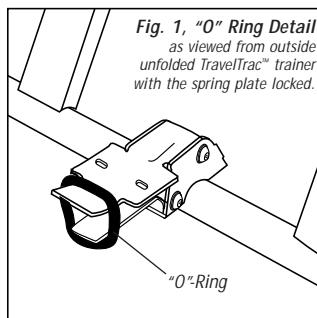

Fig. 1, "O" Ring Detail
2. Referring to Fig 1., mount the large "O" ring over both the spring plate and the spring plate release lever. Note that the spring plate must be in the lock position.